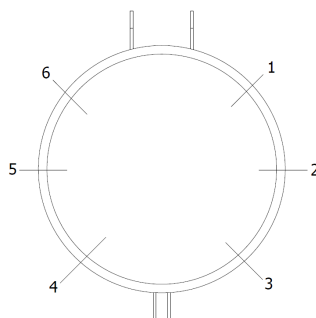
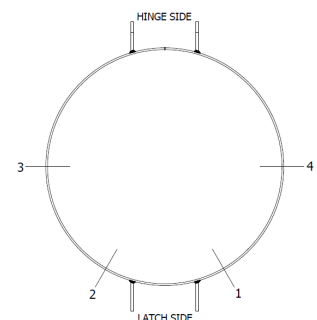

Figure 2. - Test Strip Locations (20" & 30")
Figure 3. - Test Strip Locations (16")
- b. With the hatch cover open, place all six test strips as shown in Figure 2, making sure the holes are facing outward. Spacing between test strips is 45 degrees. Test strips are not required at the hinge or latch location. For 16" carbon black hatch covers, place four test strips as shown in Figure 3.